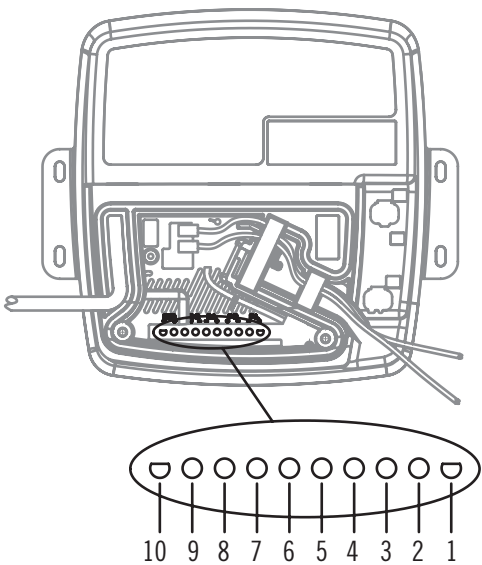

Figure 10
- 1. Connect individual speaker wires — or a 10-pin MATE-N-LOK adapter with attached wires — to the speaker outputs. Refer to Figure 10 and Figure 11 for connector identification.